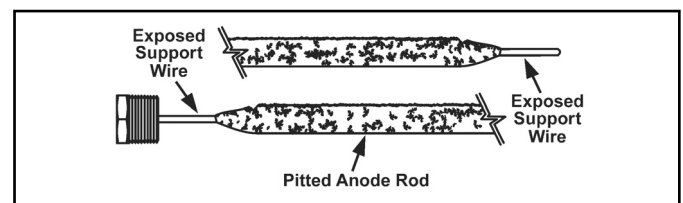

Figure 53
- Significant sections of the support wire (approx. 1/3 or more of the anode rod’s length) are visible (see Figure 53).